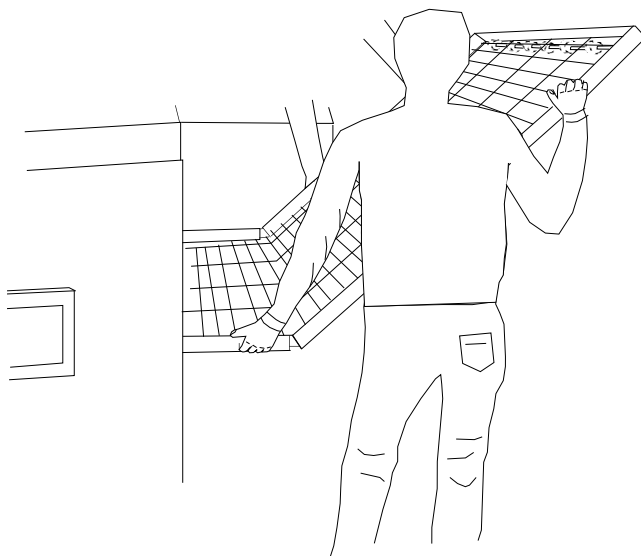

**Figure 4-24.**
3. Reassemble lower end plugs to both ends of oven. Refer to Figure 4-24. Notice that the lower end plugs have a notch in them. Position the lower end plugs against the oven and then up into place. Use the wing nuts to secure the end plugs to the oven.